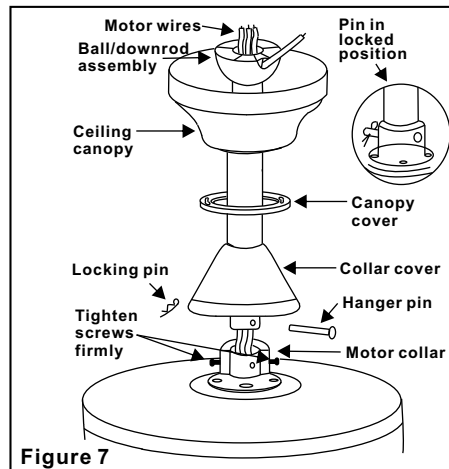

Figure 7
Step 6. Route wires exiting from the top of the fan motor through the collar cover, canopy cover, canopy and then through the ball / downrod. (Fig. 7)
Step 7. Align the holes at the bottom of the downrod with the holes in the collar on top of the motor housing (Fig.7). Carefully insert the hanger pin through the holes in the collar and downrod. Be careful not to jam the pin against the wiring inside the downrod. Insert the locking pin through the hole near the end of the hanger pin until it snaps into its locked position, as noted in the circle inset of Fig. 7.
Step 8. Tighten two set screws on top of the fan motor firmly (Figure 7)